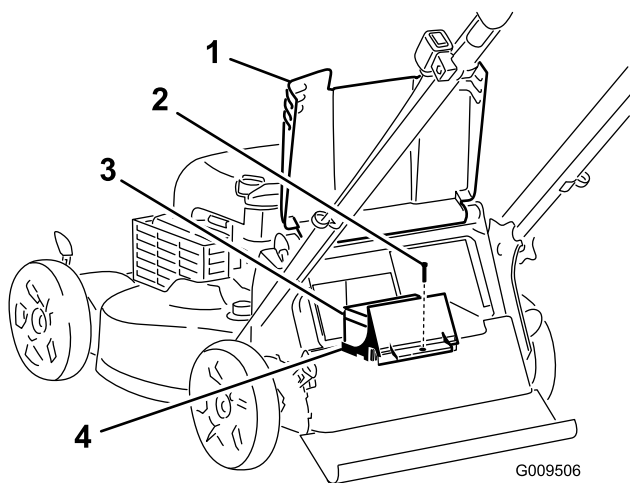
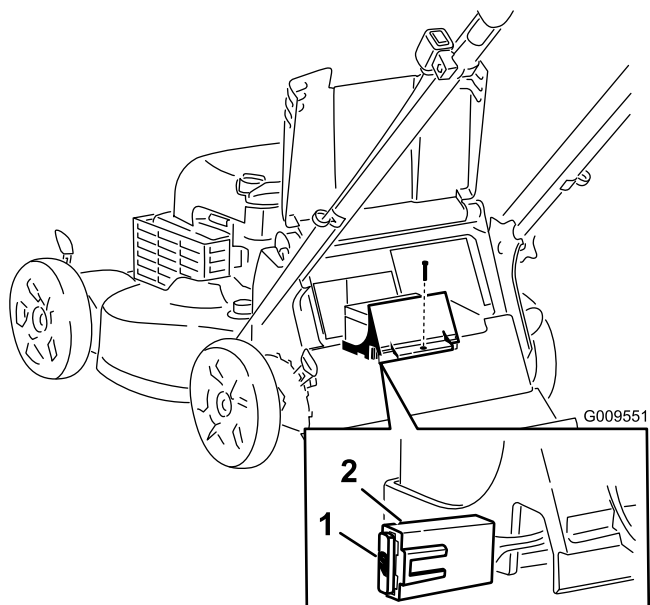

Figure 5
Figure 6
1. Raise the rear deflector and locate the battery compartment (Figure 5).
- Remove the screw that secures the battery compartment, pull out the battery, and locate the fuse (Figure 5 and Figure 6).
- Insert the fuse into the fuse holder (Figure 6).